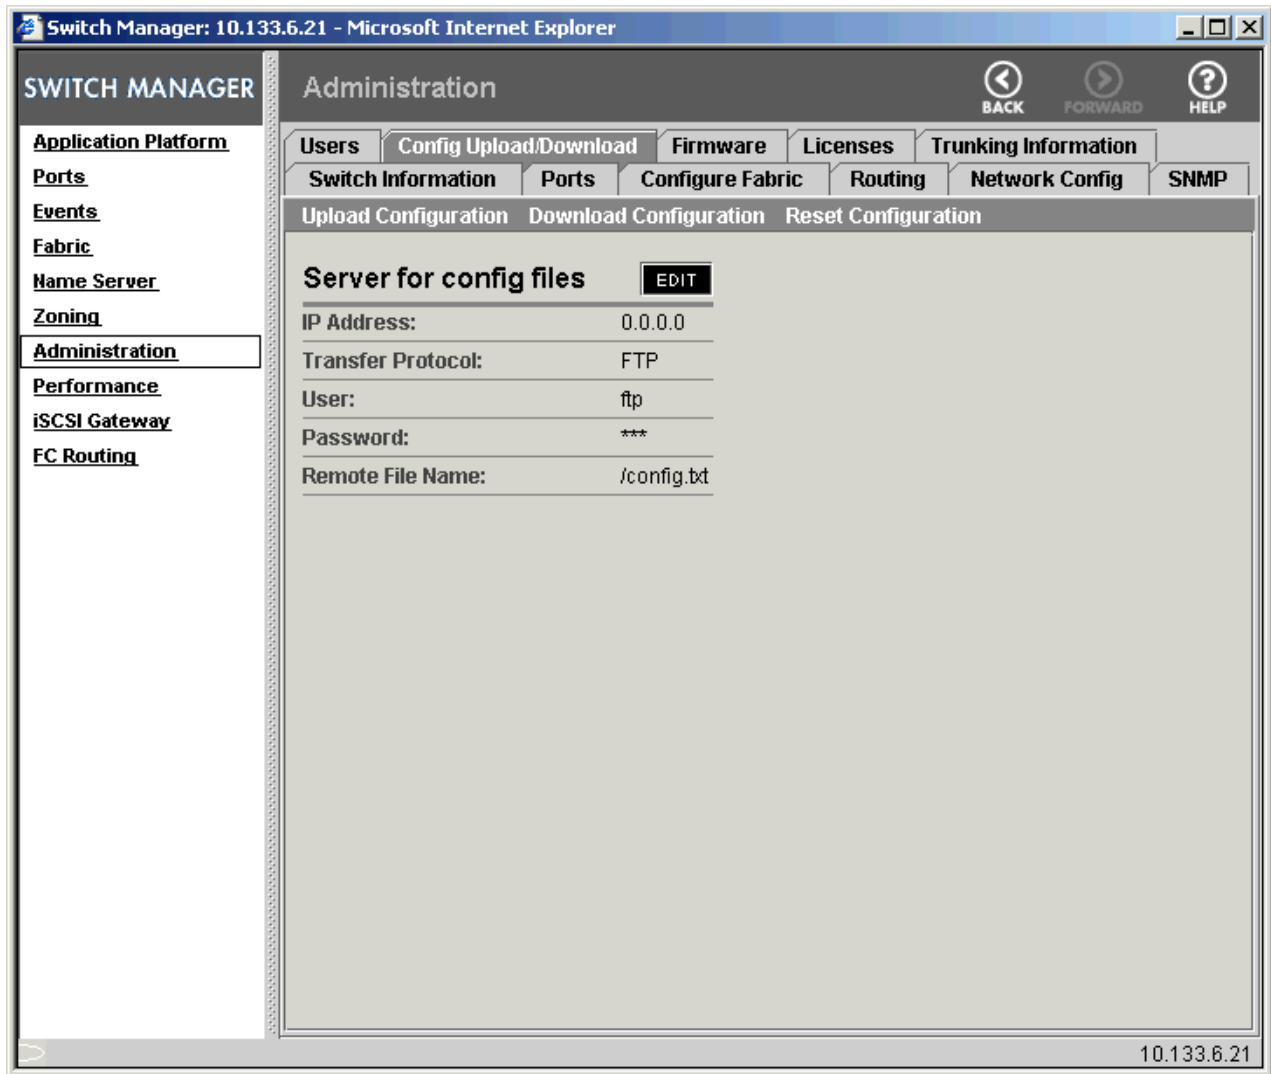

Figure 7 Administration tab with Config Upload/Download tab selected
3. Click the **Config Upload/Download** tab (see Figure 7).
3. Click the **Config Upload/Download** tab (see Figure 7 on page 25).